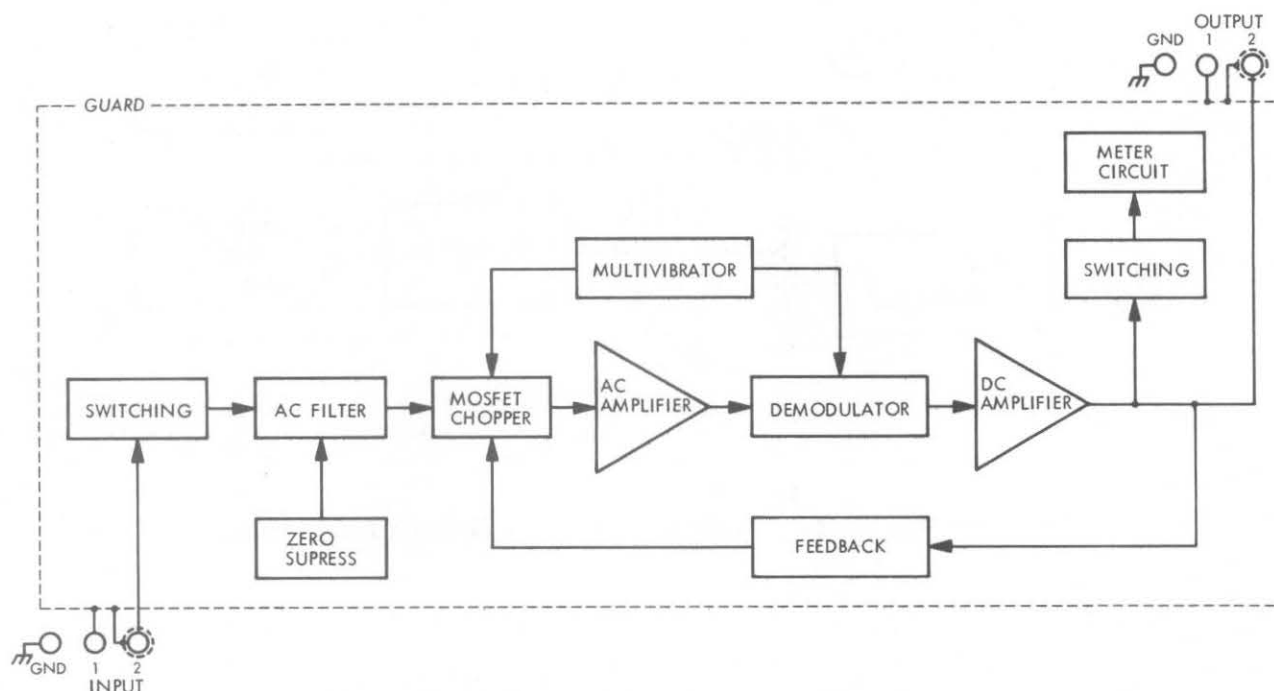

Figure 3-4. Detector Block Diagram
The detector of the Model 801B is a high-sensitivity solid-state DC voltmeter. It is made up of the following circuits: (1) an input attenuator, (2) a modulator and demodulator, (3) multivibrator, (4) an AC amplifier, (5) DC amplifier, (6) a meter, and (7) a feedback network. Figure 3-4 is a block diagram of the detector circuit.